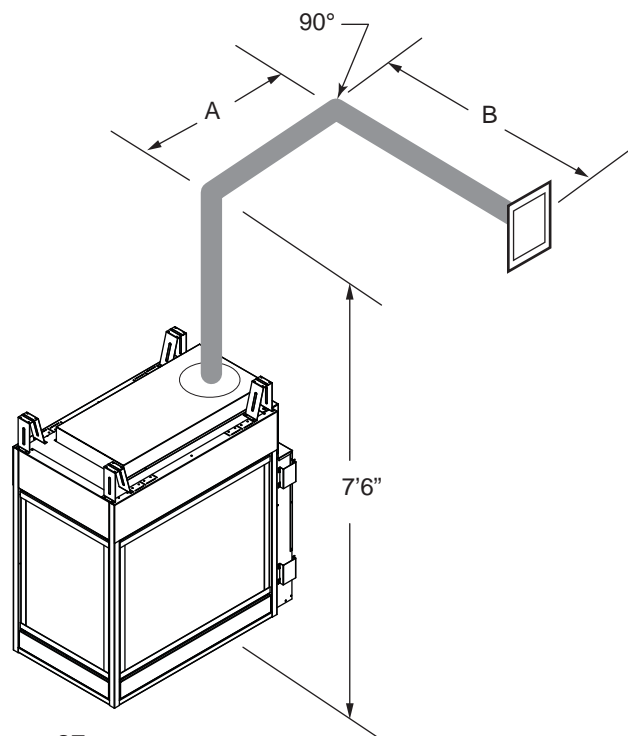

Figure 27 - Horizontal Run Reduction
- If a 90° elbow is used in the horizontal vent run (level height maintained) the horizontal vent length is reduced by 36". *Figure 23*. This does not apply if the 90° elbows are used to increase or redirect a vertical rise. *Figure 27*
In *Figures 27 and 28* dimension A plus B must not be greater than 17' (5.2 m).
- Two sets of 45°elbows offsets may be used within the vertical sections. From 0 to a maximum of 8' (2.5 m) of vent pipe can be used between elbows. *Figure 27*
- The maximum angular variation allowed in the system is 270°. *Figure 27*